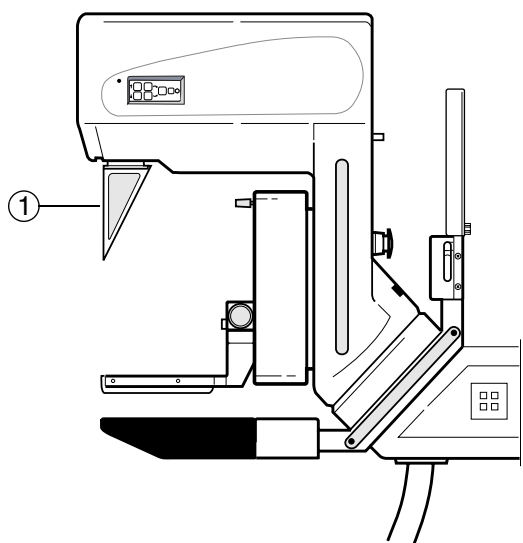

Fig. 3 Face shield
1. Slide the face shield (No. 1/Fig. 3) onto the holder for external diaphragms.